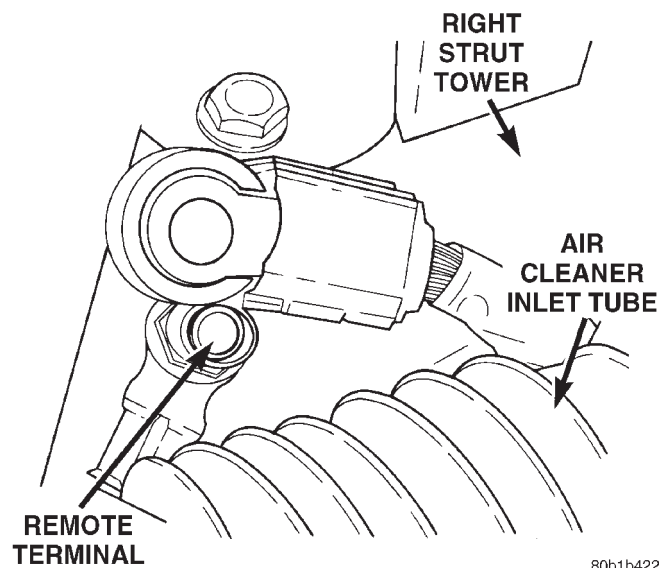

Fig. 5 Negative Battery Cable Remote Terminal
(1) Disconnect and isolate the negative battery cable remote terminal from the remote battery post (Fig. 5).